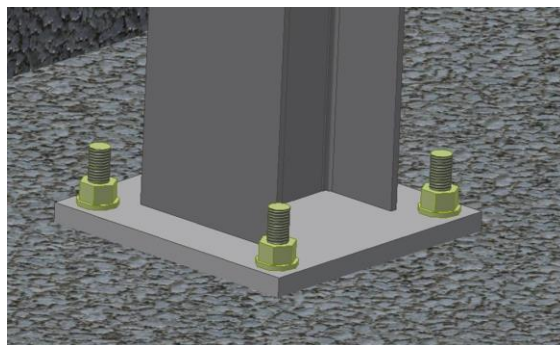
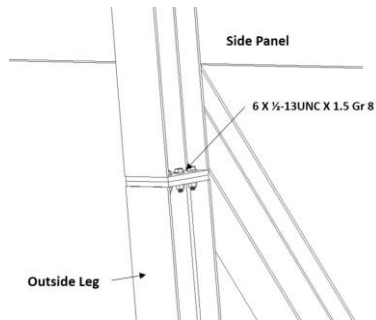
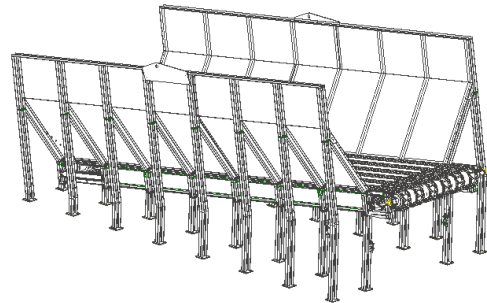

Figure 10. Typical Inside Leg Base Plate Connection
Figure 18. Upper bolted connection for outside legs.
Figure 19. Assembly with outside legs installed.
The next step is to position the assembly on the foundation and connect it with concrete wedge anchors. The inside leg base plates contain holes for four (4) concrete wedge anchors. The wedge anchors should be Concrete Fasteners Part No. WA34614 or equivalent and should be placed in 3/4 inch x 4.5 inch deep holes drilled in the concrete. A typical base plate to foundation connection is shown in Figure 10.
The next step is to install the outside legs. These connect to the side panels and the foundation. Figure 18 shows a typical outside leg upper connection, while Figure 10 shows a typical connection to the foundation using wedge anchors. The wedge anchors should be Concrete Fasteners Part No. WA34614 or equivalent and should be placed in 3/4 inch x 4.5 inch deep holes drilled in the concrete. Figure 19 shows how the assembly appears with all outside legs attached.